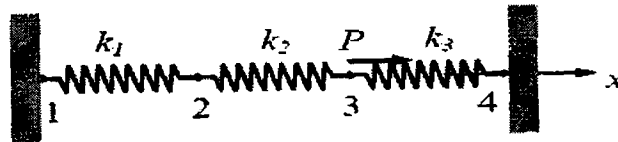

Figure 1 Spring System Assembly
- (b) For the spring system shown in Figure 1, calculate the global stiffness matrix, displacements of nodes 2 and 3, the reaction forces at node 1 and 4. Also calculate the forces in the spring 2. Assume,  $k_1 = k_3 = 100$  N/m,  $k_2 = 200$  N/m,  $u_1 = u_4 = 0$  and  $P = 500$  N.